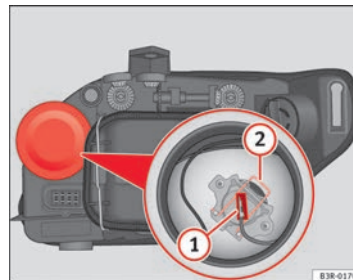

Fig. 195 Main beam headlights
- Remove the connector ⇒ Fig. 195 **1** from the bulb.
- Press the spring ⇒ Fig. 195 **2** inwards and to the right.